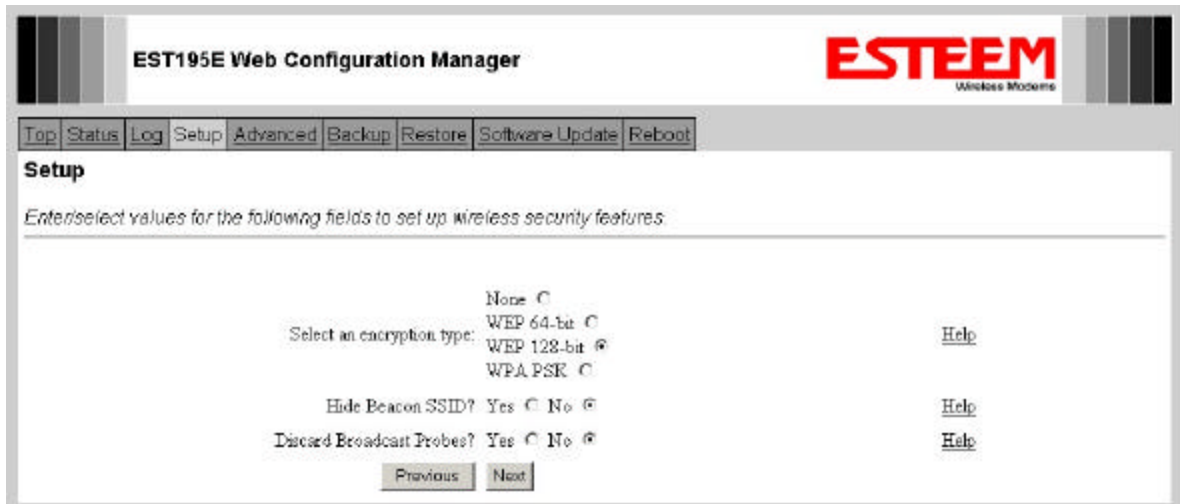

Figure 7: Encryption Setup Screen
10. Select the encryption level for the wireless network. If you would like to hide the SSID from broadcasting from the Access Point select **Yes**. If Yes is selected the Model 195Eg will not send out periodic SSID radio beacons that can be identified with 802.11b network scanning software. The users of the network will have to know the SSID to enter the network and security is increased, but if you want the SSID to be broadcasted to the network for easy identification then select **No**. Reference Figure 7.